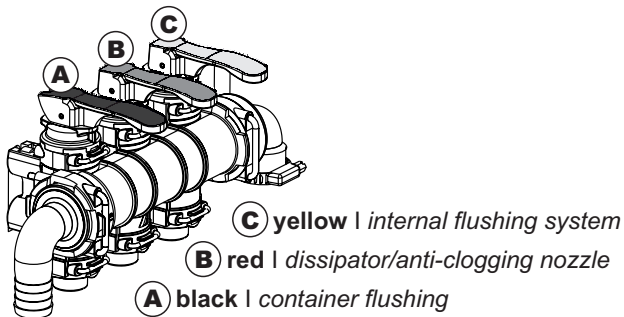

Fig. 5
- **WITH CLOSED LID**, pour about five liters of water and lift the **yellow lever (C, Fig. 5)**;
- Keeping the container **IN POSITION**, start the jet by lifting the **black lever (A, Fig. 5 + Fig. 6b)** to flush the container.
- Lift the **yellow lever C** again (Fig. 5) to pour the necessary amount of water for a correct premixing.
- Lower the **yellow lever C** (Fig. 5).
**Lift all the three levers (A, B and C, Fig. 5):** by doing so, all the nozzles will be started to flush the internal walls.
Now stop any water flow inside the Mixer by lowering **all the three levers (A, B and C, Fig. 5).**